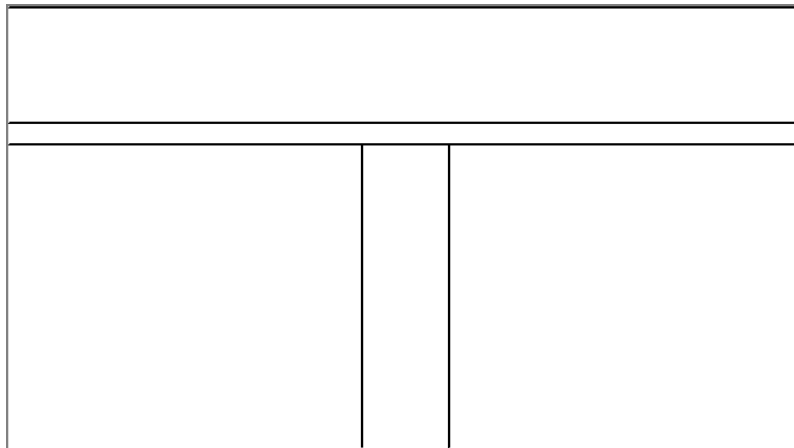

FIGURE 12.59: The detail up to this point
12. For the second point of the line, pick a point about 1'-9" (525mm), straight down, as shown in Figure 12.59. (This draws a line offset 3" [75mm] to the right from the center of the line above.)
14. Move your cursor down the view, but this time tap the spacebar to flip the line to the other direction (see Figure 12.59).
15. Draw another line of the same length (again, see Figure 12.59).
17. Compare your lines with the lines in Figure 12.59.